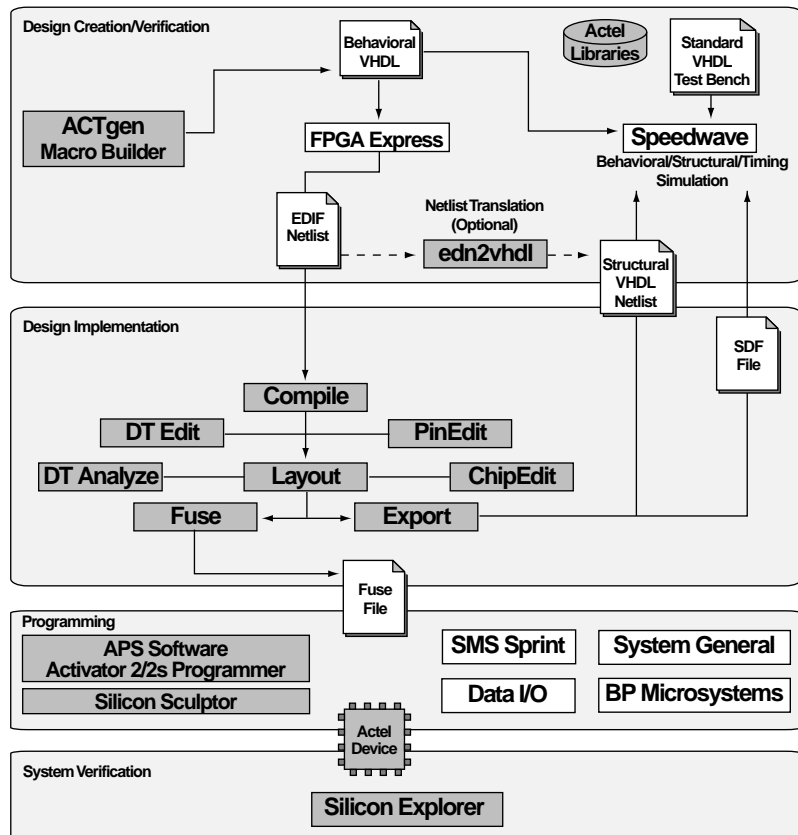

Figure 2-2. Actel-Viewlogic VHDL Synthesis-Based Design Flow
Figure 2-2 shows the VHDL synthesis-based design flow for an Actel device using the Workview Office and Designer Series software1.
1. Actel-specific utilities/tools are denoted by the grey boxes in Figure 2-2.